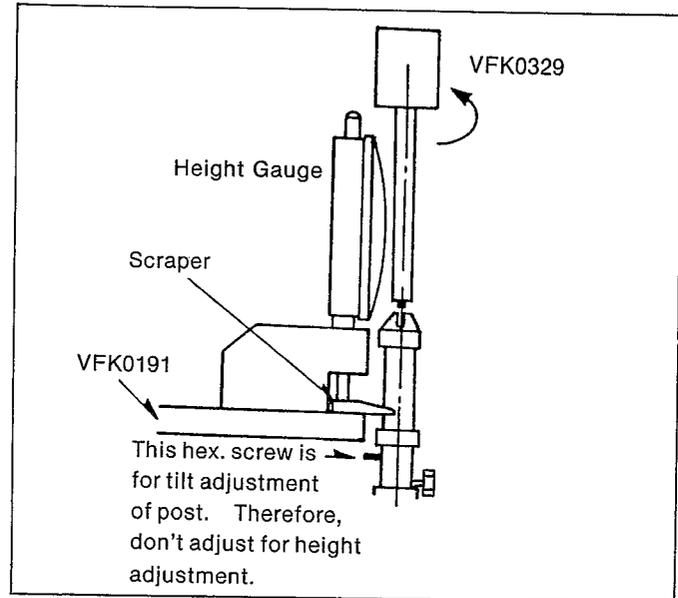

Fig. M13
- Lower 2 tape guide posts (P2 and P3) by turning the Post Adjustment screwdriver so that the condition of height becomes as shown in Fig. M13. That is, the lower edge of Tape guide should be lower than surface of Adjustment Plate.